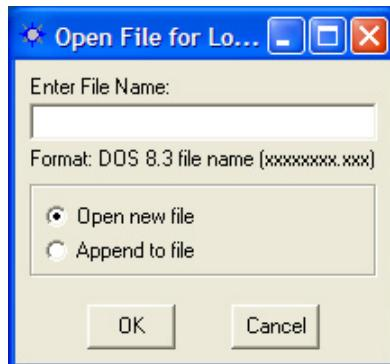

Figure 110: Enter File Name For Logging
- ✓ Click the *Start Internal Logging* button to log data from the messages scheduled to output to the *Log* port (see Figure 109). A window opens to enter a file name (see Figure 110).
- ✓ In the *Open File for Logging* window (see Figure 110):